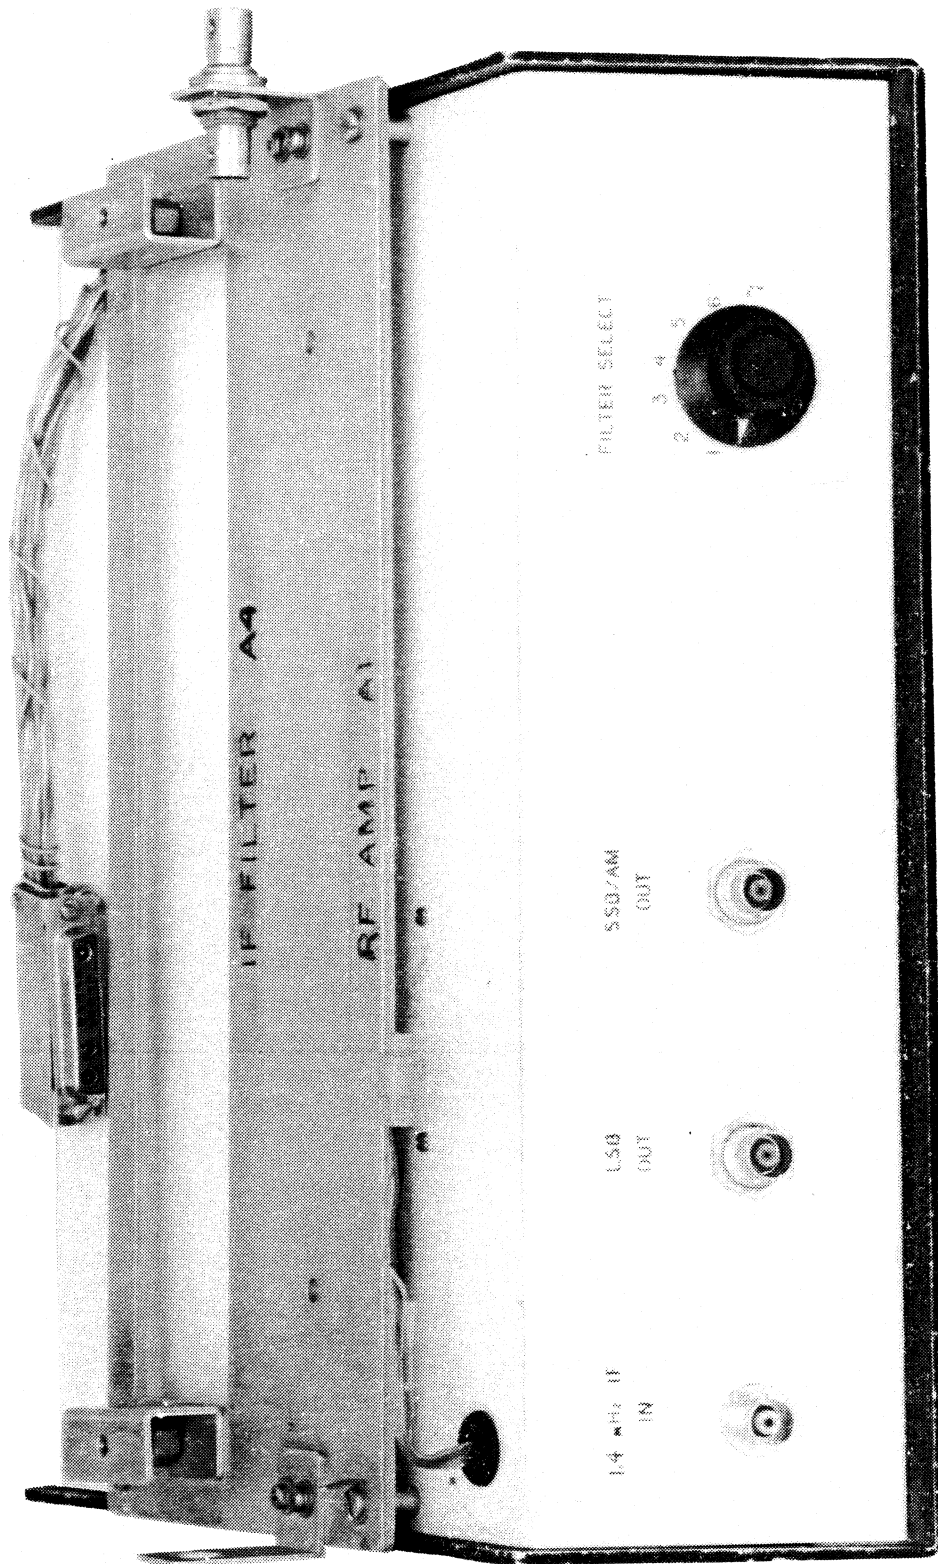
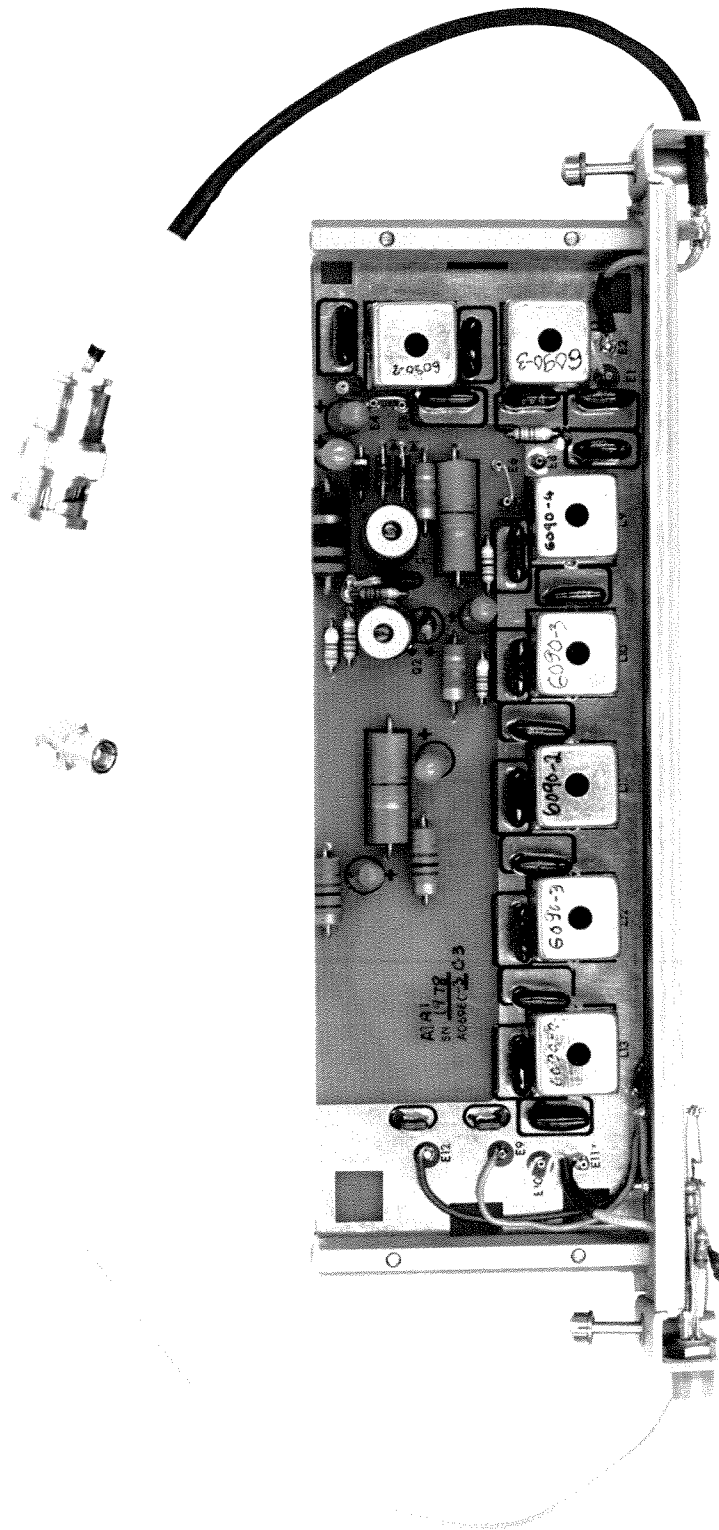
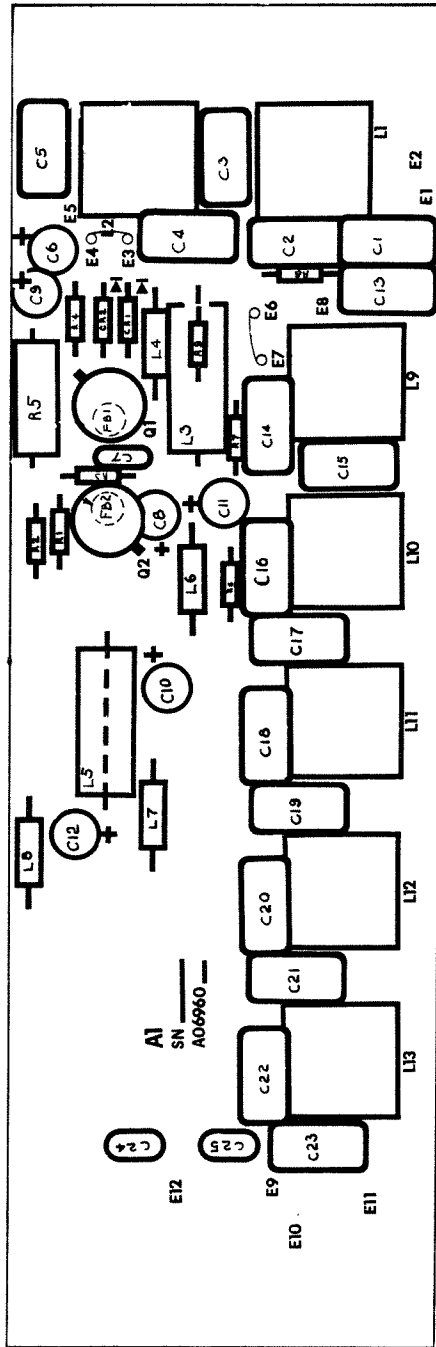

Figure 2-2. RF Amplifier A1, Test Fixture
Figure 2-3A. RF Amplifier A1, Overall Assembly
Figure 2-3B RF Amplifier A1, Circuit Card Assembly
Figure 2-2 shows the RACAL RF amplifier A1 test fixture. Figure 2-3A shows the RF amplifier module A1 overall assembly. Figure 2-3B shows the module circuit card assembly and illustrates the location of the components.
Note 1: When adjusting the coil slugs (if required) in the next sections exercise **EXTREME CAUTION** as these slugs are easily damaged by excessive torque during rotation. NOTE 2: Refer to Figure 2-3B for parts location on the RF Amplifier Module.
If the above procedures fail to produce the predicted or desired results, trace signals through to the fault; first through the input filter, then the amplifier and then the output filter. Refer to the circuit schematic diagram, Figure 2-1. Figures 2-3A and 2-3B show locations of circuits and components on the module. If required, use the oscilloscope (item 2 of Table 1-2) to trace signals to fault.